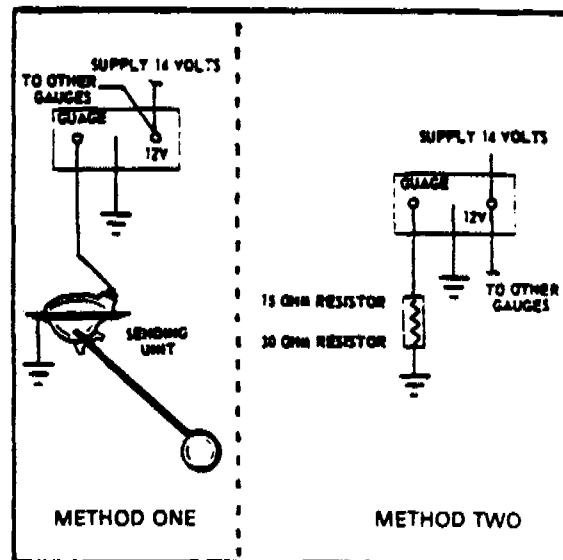

FIGURE 8-10. CHECKING FUEL GAUGE
- (b) Connect the sender directly to the gauge being checked using Number 16 or larger wire. (Refer to Figure 8-10.)
- (a) Connect a 15-ohm resistor to the sender unit terminal of the gauge being checked. (Refer to Figure 8-10.)